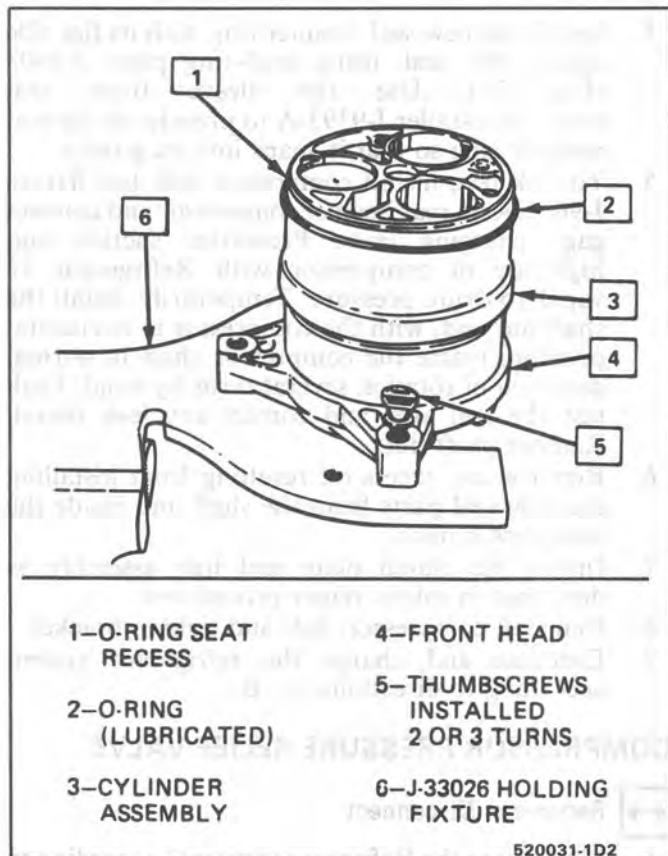
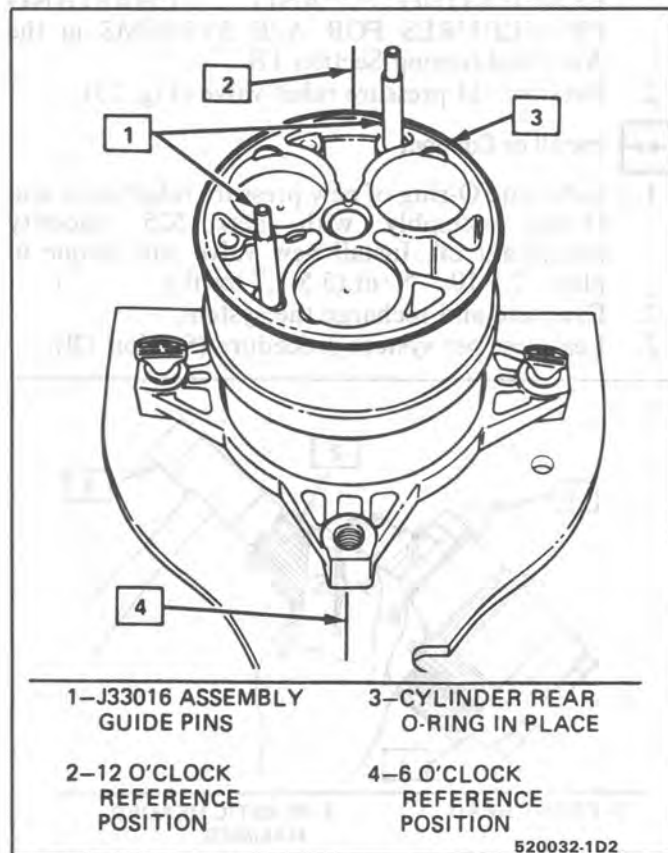

Fig. 30 O-Ring Installation On Rear Cylinder O-Ring Seat Recess
Fig. 31 Assembly Guide Pins In Cylinder Assembly (Standard Head Position)
1. Fasten the front head and cylinder assembly to the J-33026 holding fixture as shown in Fig. 30. Using masking tape or similar tape, tape across the through bolt holes in the front head at the 12 o'clock and 6 o'clock positions to support the J-33016 assembly guide pins in the through bolt holes shown in Fig. 31. Insert the guide pins with the small diameter end "up" in the locations shown.
2. Lubricate a new cylinder to rear head O-ring with clean 525 viscosity refrigerant oil and install O-ring in rear cylinder O-ring groove. The O-ring may be positioned on cylinder as shown in Fig. 30 and then rolled into the O-ring groove but cylinder surface must be clean. Preferably cleaned with recommended solvent and blown dry with air.